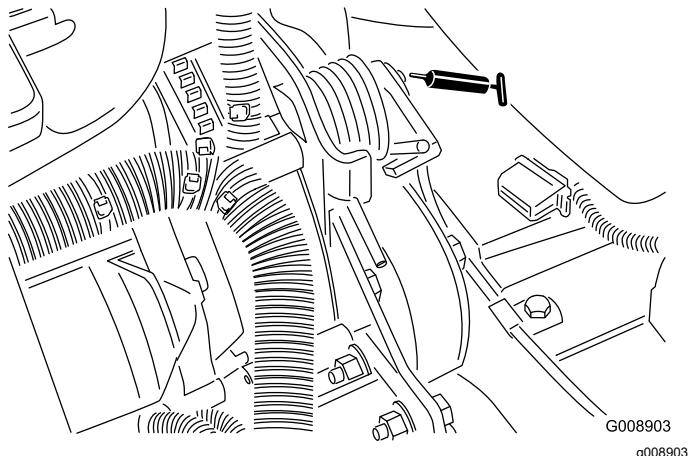

Figure 51
- Belt tension pivot (Figure 51)